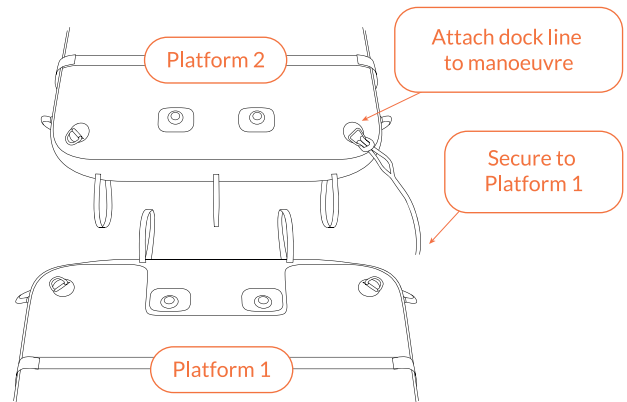
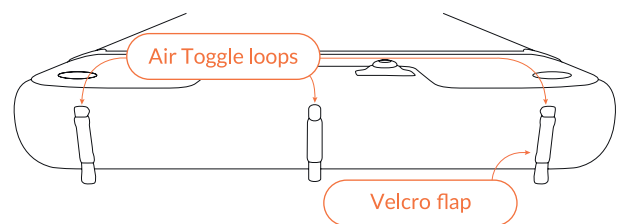

Fig 80 – Air Toggle loops, three from one platform and two from the other
Fig 81 – Air Toggle loops and Velcro flaps
2. Manoeuvre Platform 2 to Platform 1 (which is tied to the vessel) so that they are end-to-end. Manoeuvre by holding on tightly to the dockline that is attached to the D-ring by releasing the other end from the cleat of the main vessel (Fig 80).
3. They must be aligned so that there are three Air Toggle loops from one Platform and two Air Toggle loops from the other. Once in position secure the other end of the Dock line to Platform 1 (Fig 80).
4. From a kneeling position ensure the Air Toggle loops are all unfastened by releasing the Velcro flap (Fig 81) and that they sit in between each other (Fig 80).